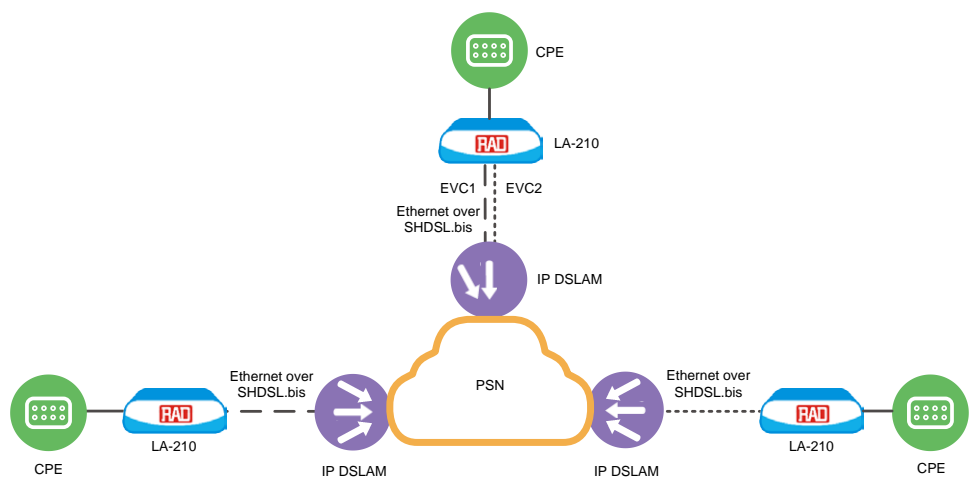

Figure 2. Providing L2 VPN Using Ethernet Virtual Private Line (EVPL) Service
Figure 2 illustrates an example of Ethernet Virtual Private Line service where LA-210 supports several Ethernet Virtual Connections (EVCs). This application can be used to connect several branches to the corporate headquarters. The branches can be connected with LA-210 using a 2/4 SHDSL wire, while the headquarters is connected with 8 SHDSL wires (22.8 Mbps). The traffic from each branch is encapsulated into EVCs, which reaches the headquarter LA-210 and is handled according to the EVC SLA parameters.
- EVPL – Site-to-site connectivity over shared bandwidth with service multiplexing (see Figure 2).